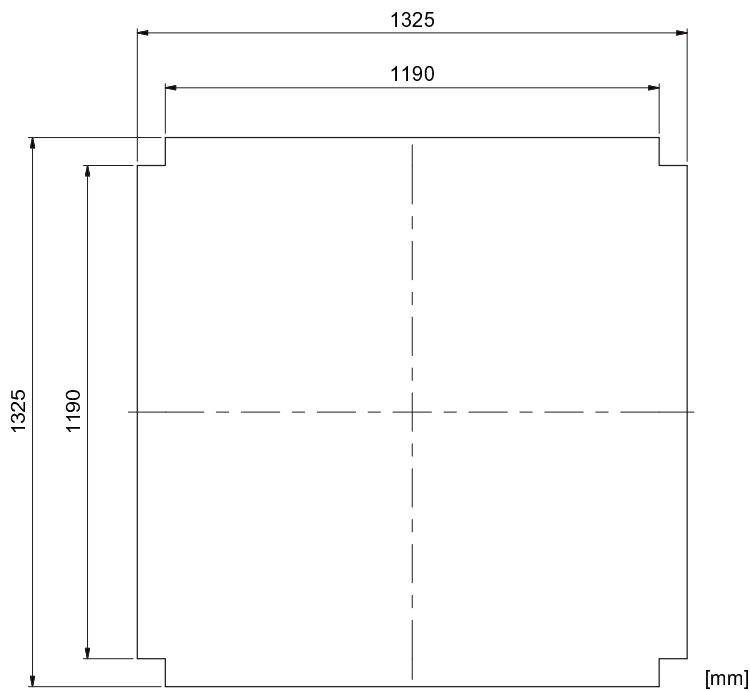
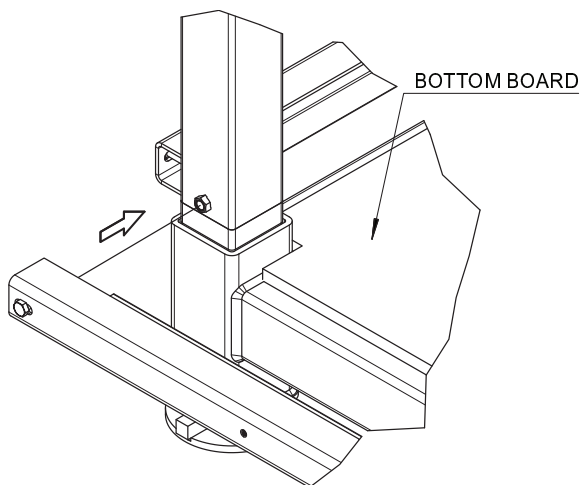

Figure 17. *Dimensions for the bottom board.*
Figure 18. *Example of placement of Formwork Support.*
- 4.1 Check that all four Corner Posts are inserted correctly into the Bottom Frame. Cut a piece of 18 mm Formwork Plywood, complying with EN 636-3, in the format as shown in Figure 17 and place in the centre of the Bottom Frame. Bolt the eight Formwork Supports to the welding nuts located on the Corner Posts. Use the bolts attached to the Formwork Supports, see Figure 18. At this step it is not necessary to tighten the bolts.